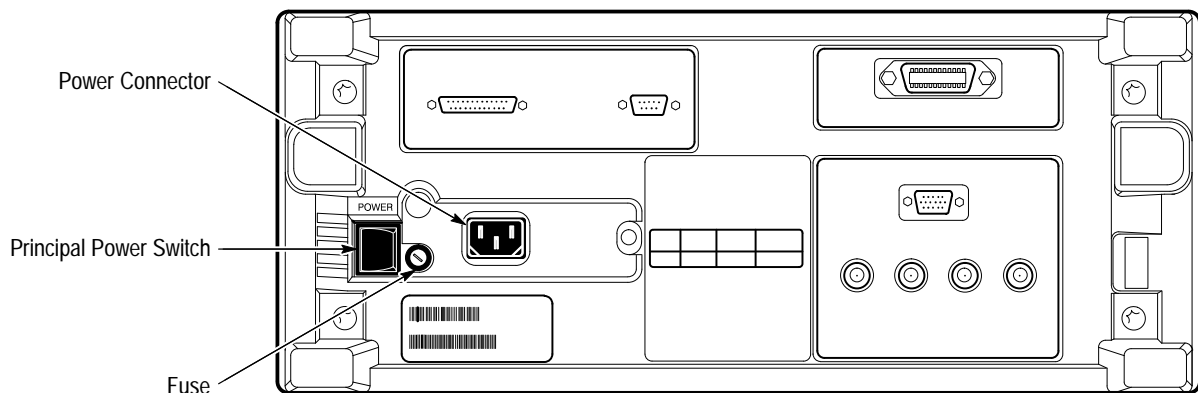

Figure 1–1: Rear Panel Controls Used in Start Up
3. Check the fuse to be sure it is the proper type and rating (see Figure 1–1). You can use either of two fuses. Each fuse requires its own cap (see Table 1–1). The oscilloscope is shipped with the UL approved fuse installed.
5. Connect the proper power cord from the rear-panel power connector (see Figure 1–1) to the power system.